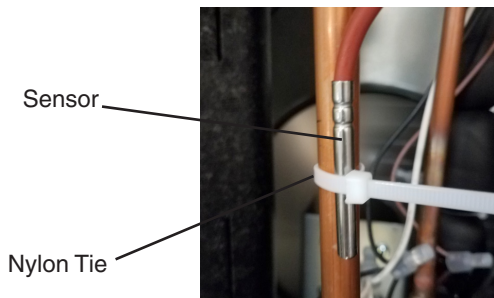
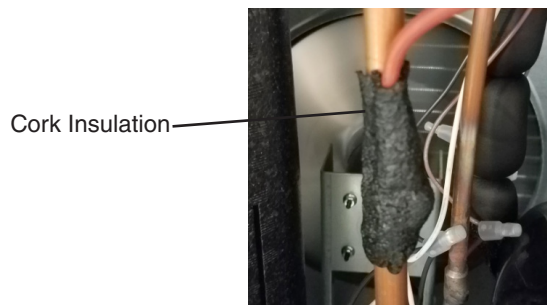

Fig. 6
Fig. 7
12) If necessary, remove any insulation from the copper tube, then place and secure the sensor on the copper tube with a nylon tie provided in this kit. See Fig. 6. Next, completely wrap the sensor with the cork insulation tape provided in this kit. See Fig. 7. Replace the insulation (if applicable) after installing the sensor and secure with nylon ties provided in this kit.